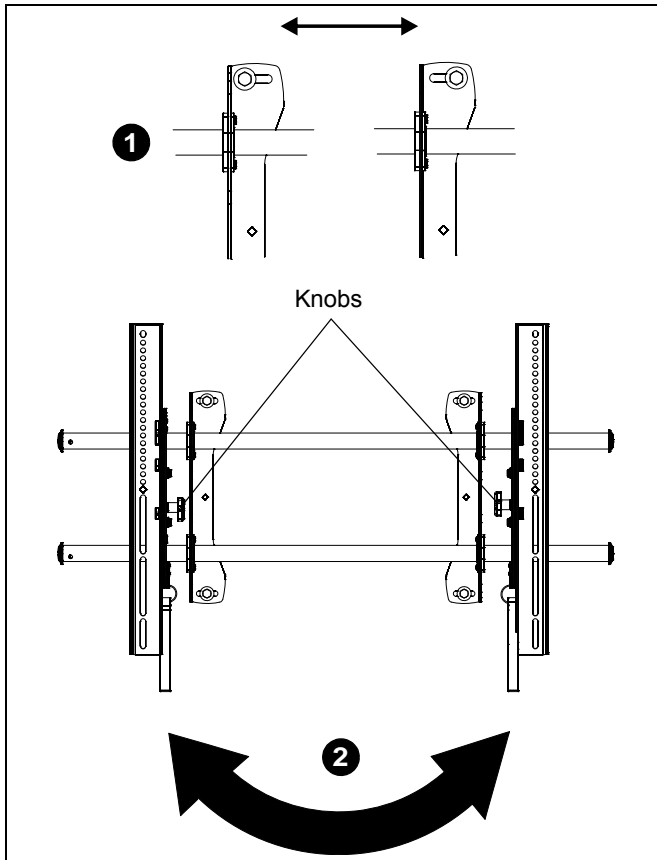

Figure 5
1. The wall brackets may be adjusted side to side at the point of attachment. (See Figure 5)
2. The location of the left and right interface brackets may be switched, with the knobs on the LTA interface brackets facing the inside of the mount. (See Figure 5)